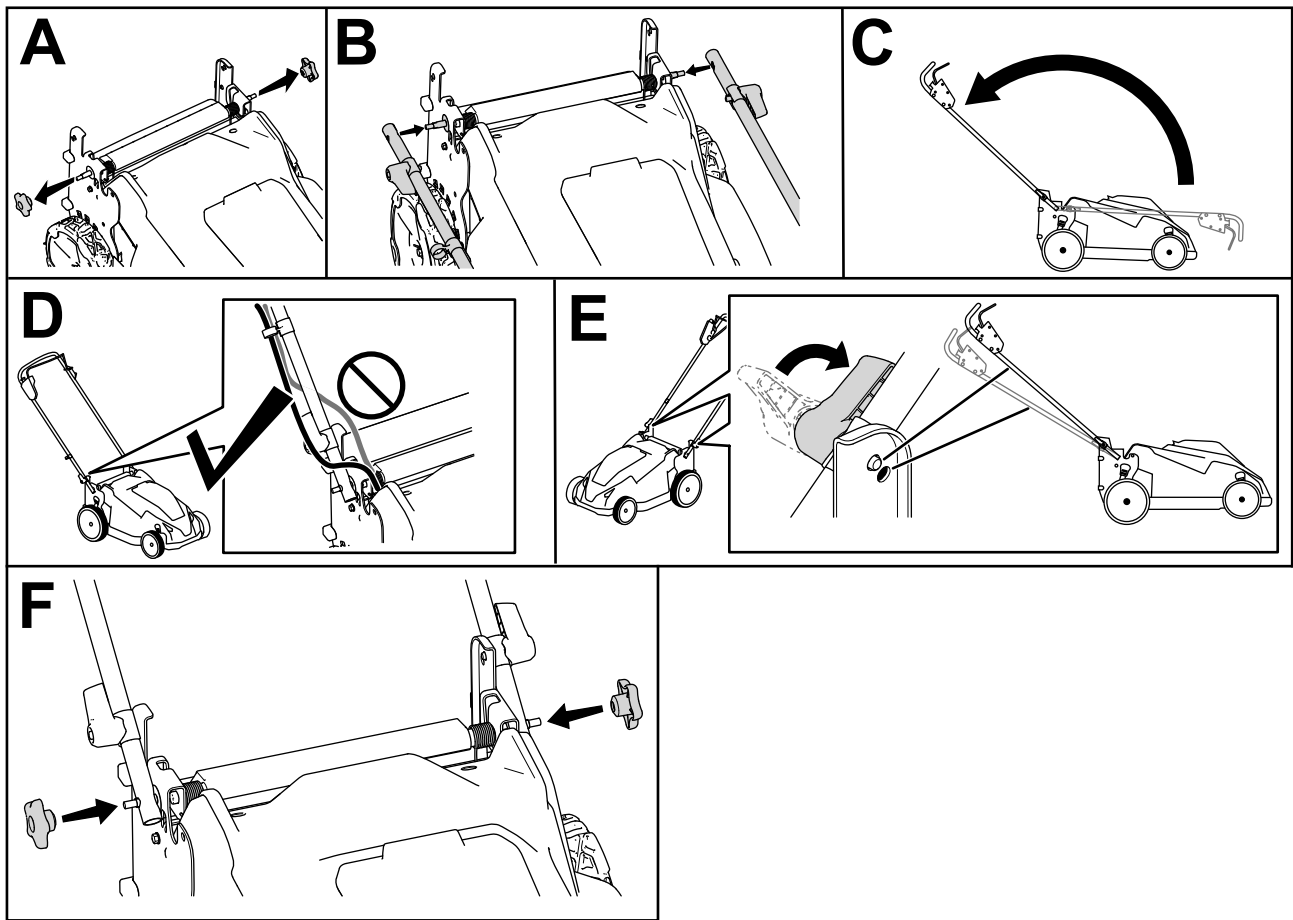

Figure 4
1. Remove the handle knobs (A of Figure 4).
2. Using the holes at the ends of the handle, attach the handle to the machine (B of Figure 4).
3. Move the handle rearward to the operating position (C of Figure 4).
4. Ensure that the cables are routed in front of the handle (D of Figure 4).
5. Engage the handle locks until the pin clicks in place to lock the handle into the operating position (E of Figure 4).
6. Secure the knobs to the handle bolts to secure the handle (F of Figure 4).